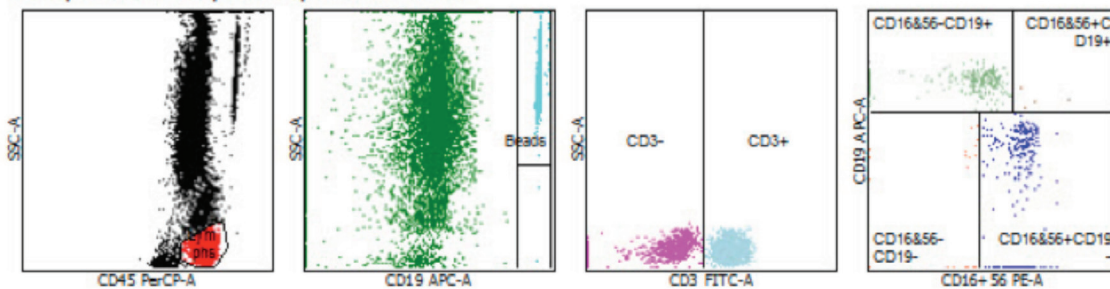

Figure 19: Normal B-cell (CD19+) and NK cell (CD16+CD56+) patterns
Step 4. Verify the quadrant location to capture the CD19+ and CD16+CD56+ cells. See Figure 19.